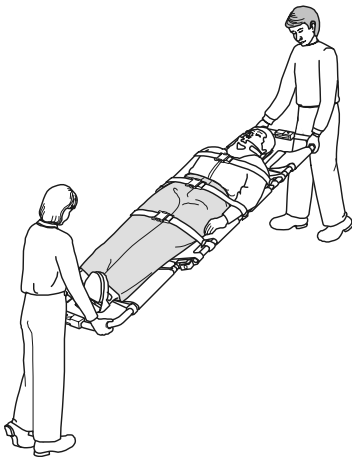

Figure 5 - Carrying the Stretcher
- To lift and carry the stretcher with two operators, position yourselves at opposite ends of the stretcher and grasp the main frame (Figure 5). This maintains the stretcher balance. For more than two operators, see *Using Additional Help*, page 10.
9. To lift and carry the stretcher with two operators, position yourselves at opposite ends of the stretcher and grasp the main frame (Figure 5, page 9). This maintains the stretcher balance.